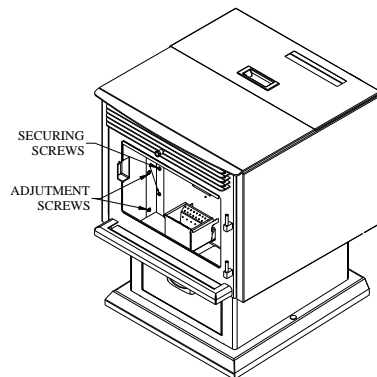
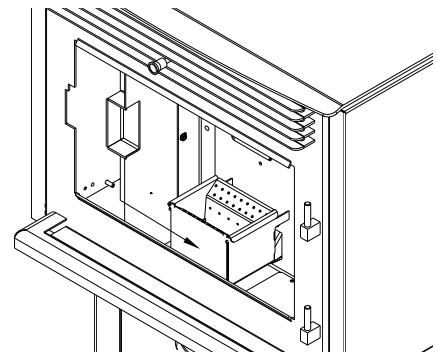
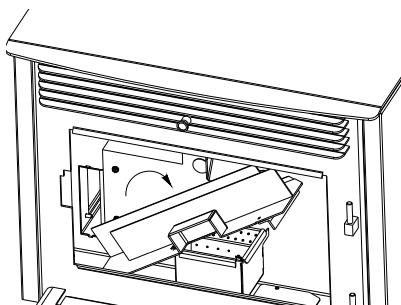
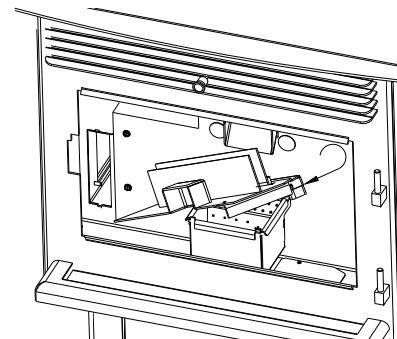

Figure 21
Figure 22
Figure 23
Figure 24
- c. **Chamber walls:** Periodically, you must vacuum the ashes that may have accumulated on the main walls of the combustion chamber. **START BY REMOVING THE DECORATIVE MASONRY-LIKE PANELS, WHICH ARE SIMPLY HELD BY CLIPS.** The use of a vacuum is necessary. There is also a cleaning outlet located behind the left side panel of the combustion chamber. Remove this panel using a screw driver. Loosen the adjustment screws then remove the securing screws(Figure 21). Slide the wall toward right(Figure 22), tilt it (Figure 23) then remove it from the combustion chamber. Scrape off ashes. You will notice a small rectangular cleaning outlet. Inspect behind this outlet (see Figure 24) Insert the vacuum tip through the cleaning outlet and clean thoroughly. **REPEAT THIS OPERATION AT LEAST ONCE PER TON OF PELLETS BURNED UNTIL YOU ARE FAMILIAR WITH HOW ASHES ACCUMULATE WITH YOUR OPERATING PRACTICES.**